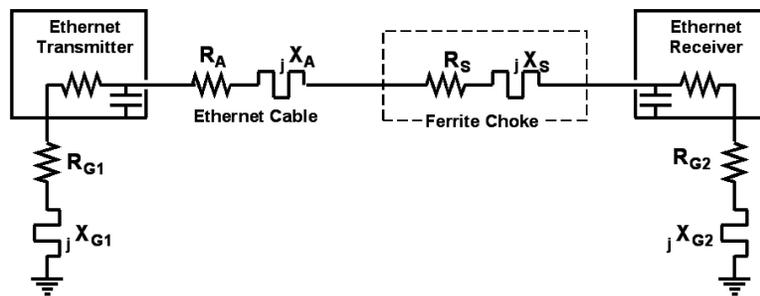

Fig 21 – Ethernet circuit, including "ground"
Fig 21, which includes the impedance of the path to "ground," makes it clear that there can be a lot of variables in this simple problem. Each of the X terms may be capacitive or inductive, and they will have different values at every frequency. Every wire in that series circuit will function as an antenna, radiating any noise current that it carries. Does that mean we must throw up our hands? Of course not. But it clearly shows why coming up with a number for how much suppression a given choke will yield is not a simple matter. Indeed, the best way to learn that for any given circuit is to wind a choke that provides the greatest impedance in a practical package and try it!
In the simple circuit above, the Ethernet transmitter can be seen to feed an unbalanced dipole, where the Ethernet cable is half of the dipole and a connection to "ground" via the power supply is the other! Fig 21 makes it clear that the current path is also a loop. We must never forget that our invisible "ground" circuit can be part of the antenna circuit, contributing both its length and radiation to the problem. And if the Ethernet device is a switch or hub that has multiple outputs, the Ethernet cables connected to each port become part of the equivalent circuit, and because each output includes a line driver, the cables connected to each output need suppression.
**Threshold Effect** Looking again at the series circuit of Fig 21, let's say that for a particular antenna (Ethernet cable) working into a particular piece of gear, the series impedance at the frequency of the interference is 300  $\Omega$ . If we are able reduce the RF current by 6 dB, (one half), the interference radiated by that cable will also drop by 6 dB in our ham receiver. To do that, a choke must add enough resistance to double the total impedance. In other words, we need to end up with 600  $\Omega$ . But what if the antenna circuit is capacitive and our choke is inductive at that frequency? Some of the impedance we are adding will increase the current because it resonates with the antenna, so we may need to add more than 300  $\Omega$  to hit 600  $\Omega$ ! *How many times have you heard someone say, "ferrite beads don't work on this problem – I added one and nothing happened." In fact, they were simply below the threshold impedance needed in that particular circuit!* Once we've hit that threshold, adding more series impedance continues to reduce the current flow. RF current is reduced by the ratio of the "before" and "after" values of the total series impedances. Since power is proportional to the square of the current, RF noise falls 6 dB per halving of the current flow. If the choke is suppressing the detection of RFI in other equipment (telephones, hi-fi systems, etc.), 6 dB less RF translates into a 12 dB reduction in detected RF (because all detection is square law).